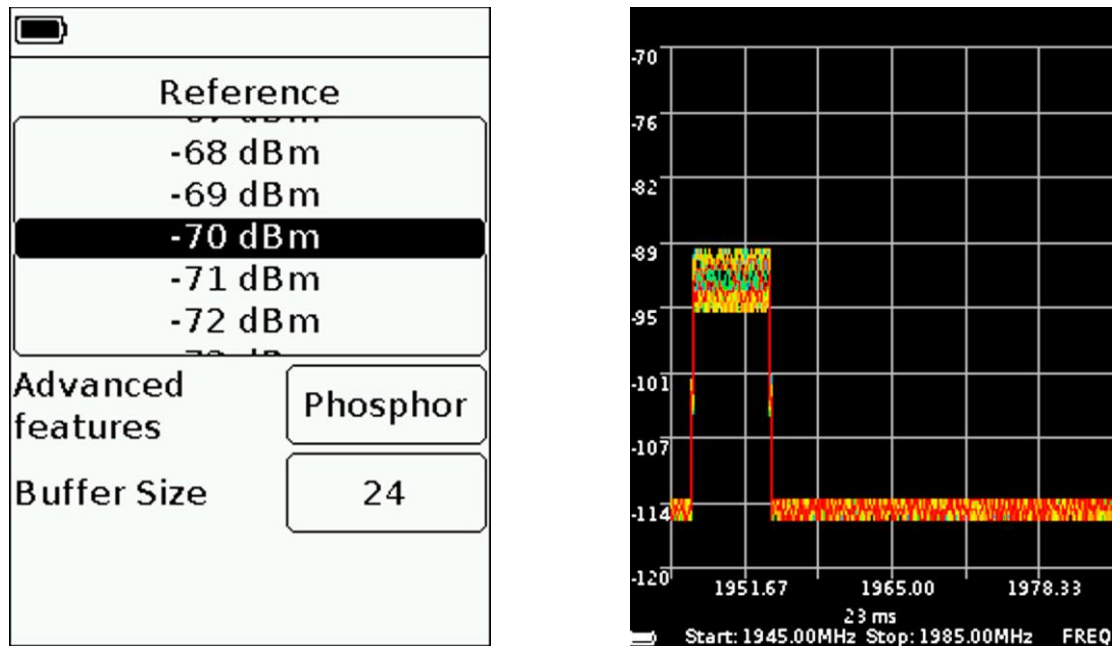

Figure 8.4.6 - Measurement in the «Digital Phosphor» mode
8.4.4.2. In the additional «Digital Phosphor» display mode, the fading spectrum graph is displayed on the device screen, as in Figure 8.4.6. Additionally, in the **Buffer Length** window, the number of previous measurements (8, 16, 24 or 32) memorized to display the chart is set.